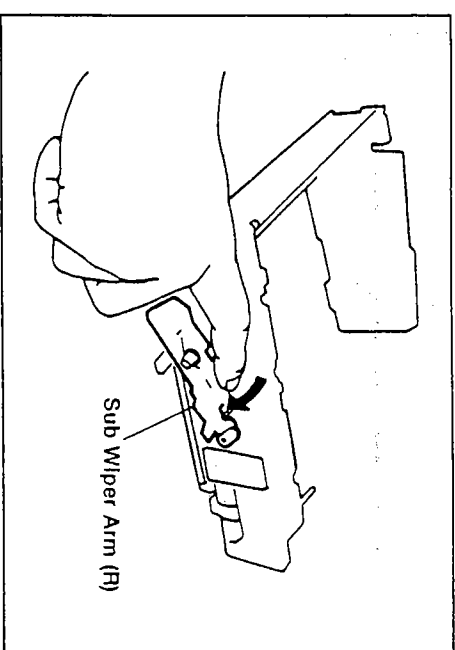
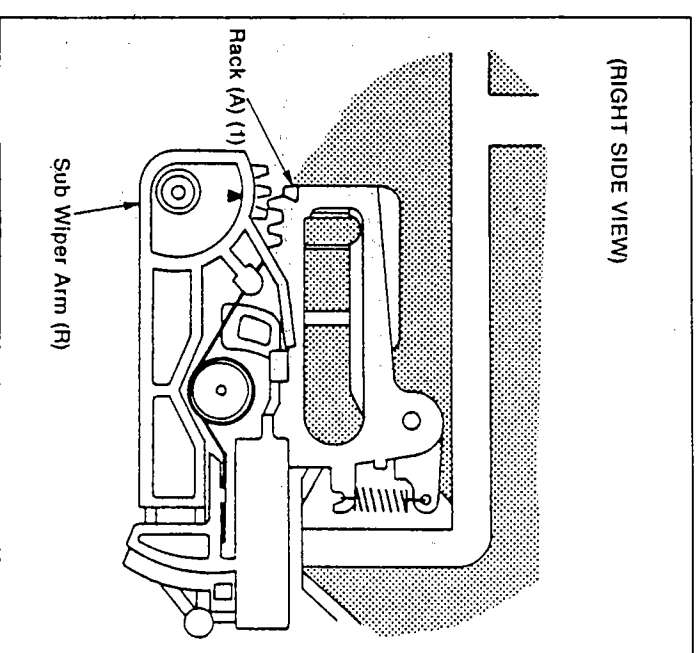

Figure M57
Figure M58
5. Press the sub wiper arm (R) to direction indicated by arrow so that the sub wiper arm (R) comes to cassette down position (STOP) completely as shown in Figure M57 and keep it. In this position, the arrow on the Sub Wiper Arm (R) should align with the arrow on the Rack (A) (1) Unit as shown in Figure M58.